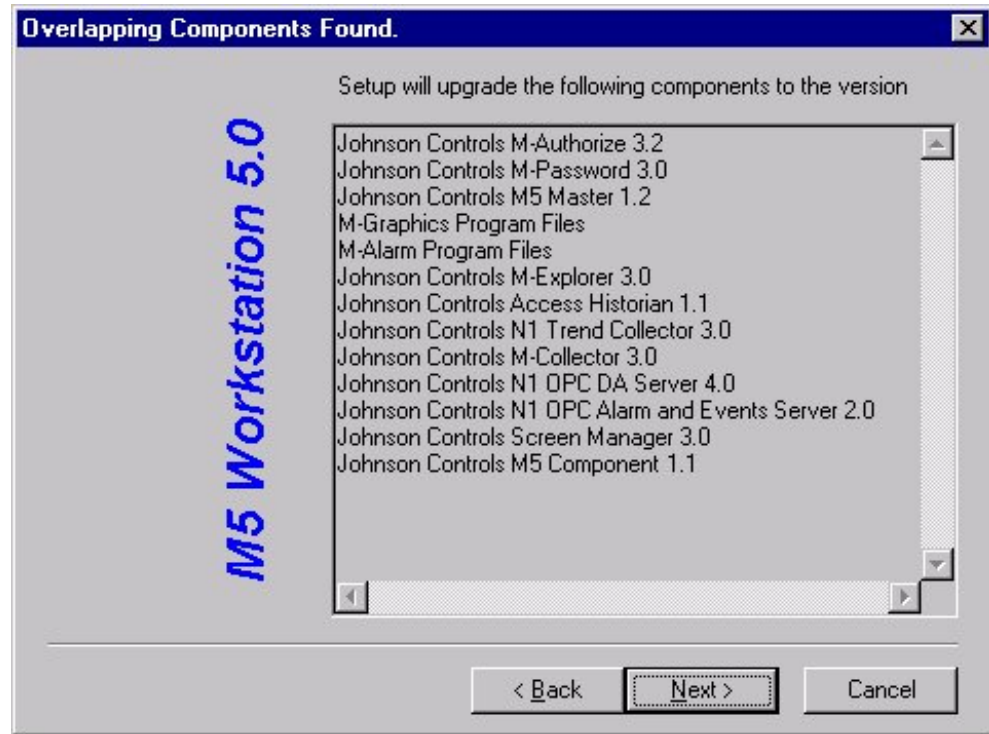

Figure 10: Overlapping Components Found Screen
10. Click Next. The Overlapping Components Found screen appears (Figure 10). This screen lists the components selected to upgrade.